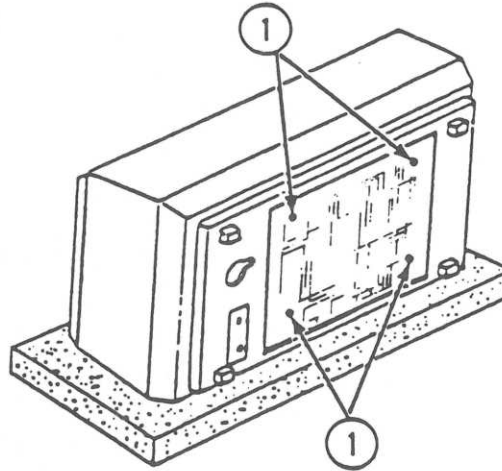

FIGURE 11
8. Using a pad or cushion for protection, set the printer on its back. (See Figure 11.)
11. Use an 8mm nutdriver to remove the four CPU PC board nuts. (See Figure 11, #1.)